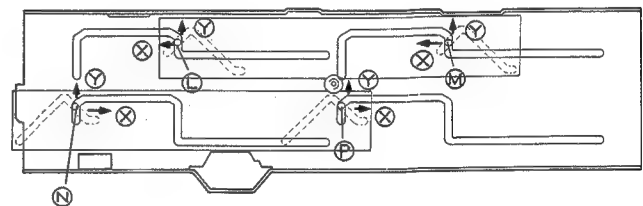

Fig. 10-8.
2. When rack U and rack L move in the directions of the arrows $\textcircled{2}$ and $\textcircled{1}$ respectively, the force dispersed in the \textcircled{X} direction and the \textcircled{Y} direction shown in Fig. 10-8 acts on slide angle shafts \textcircled{L} , \textcircled{M} , \textcircled{N} , and \textcircled{P} .